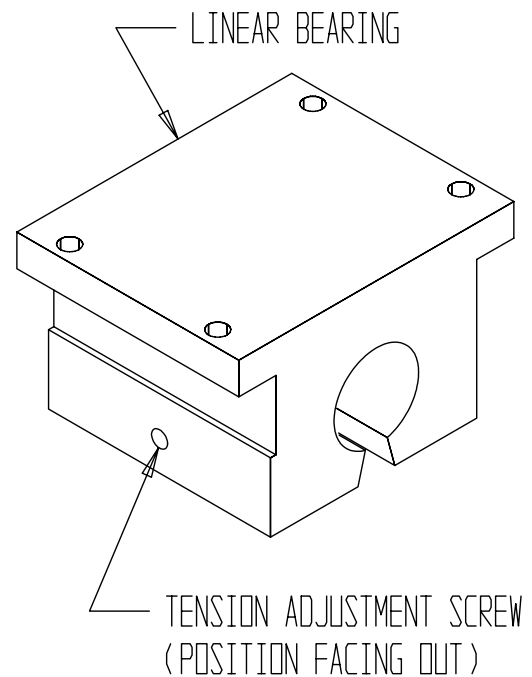

FIG. 17
STEP 3--Insert a new linear bearing onto the end of the carriage shaft with the tension adjustment screw pointing outward. See FIG. 17.